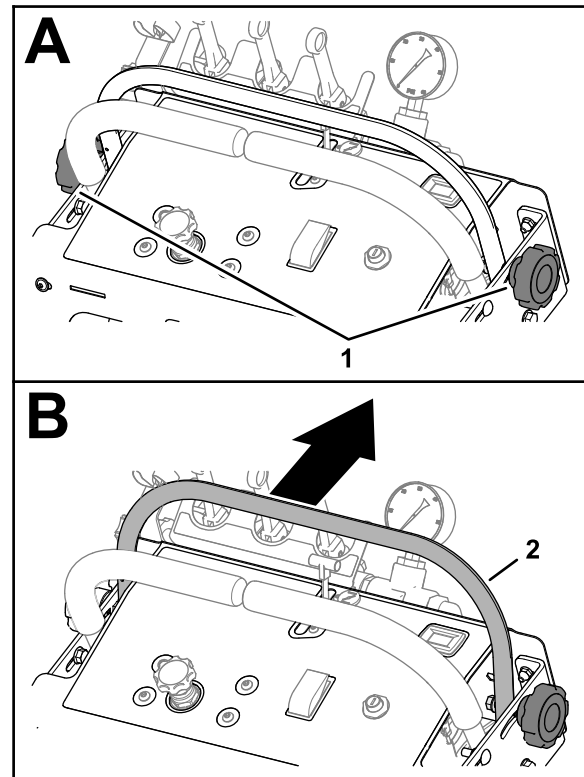

Figure 95
2. Loosen the 2 knobs that secure the speed bar, and push the speed bar forward (Figure 95).